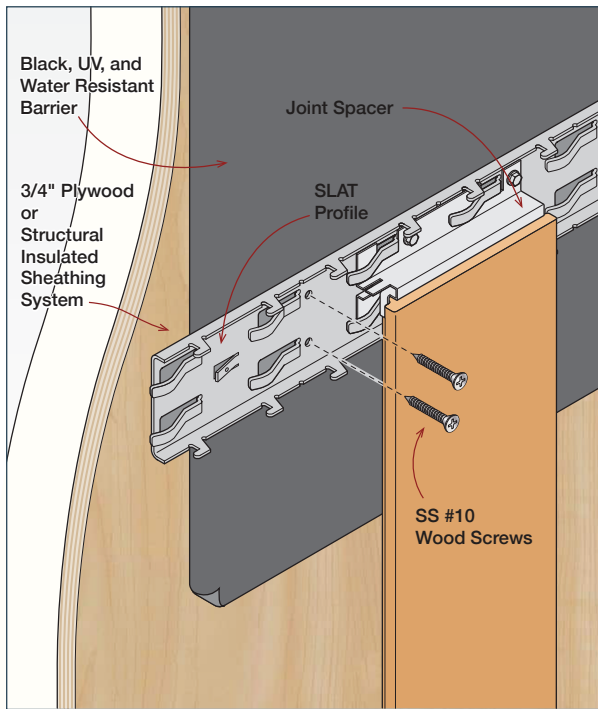

FIG. V1
- a. (AFC's Recommendation) Attach 3/4" Pressure Treated Plywood or other structural sheathing. (FIG. V1 & V2)
- Plywood Attachment (FIG. V1 & V2), SLAT profile runs horizontally): Use a #10 stainless steel wood screw (BY AFC)